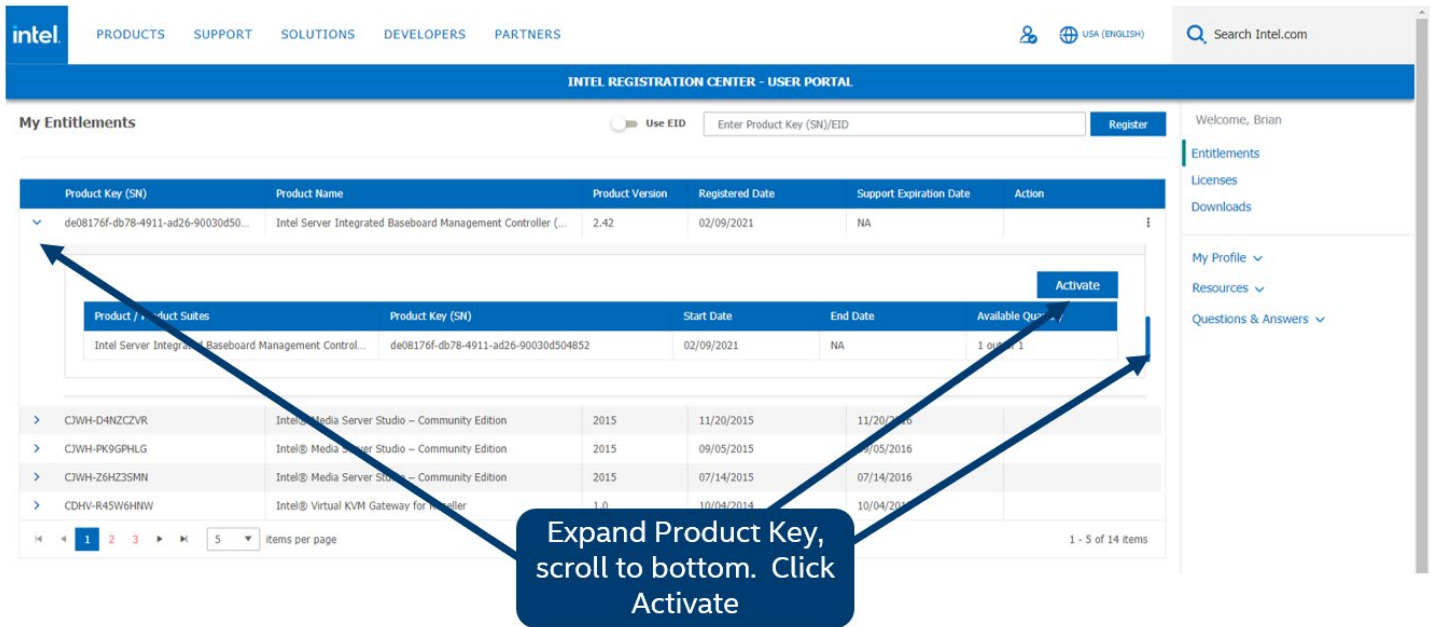

Figure 73. Activate Key for Advanced System Management (ASM) Key
- Enter the number of Advanced System Management (ASM) licenses needed. It must be equal or less that the quantity available displayed on the right corner of the screen. Click on the “Generate License(s)” bottom to download the single license file. (see Figure 73)